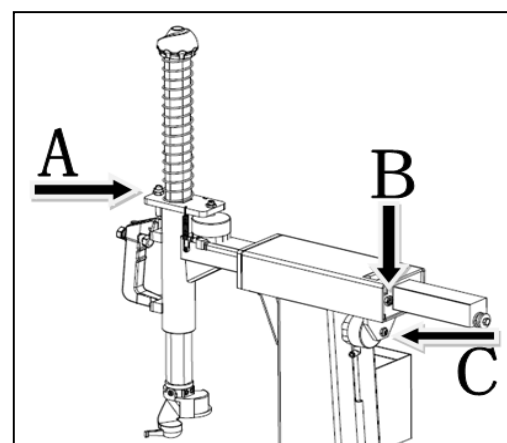

FIG21
- ✧ Switch off the pneumatic source and detach the protective cover on the hexangular shaft. If the clearance is too much, we can adjust the nuts (Fig21-A) on the vertical
- ✧ Switch off the air source and detach the protective cover at the upper end of the horizontal arm.Use 5# spanner to loosen the lock nut (Fig21-C)on the M6 screw at the two end.Adjust the M6 screw,meanwhile use your hand to push the quadric shaft until it runs smooth and thenlock the nut.Use the spanner to adjust the screwin the middle and meanwhile lock the horizontal arm and observe the displacement. When the displacement is 2mm,lock the nut.
- ✧ If the square locking plate cannot lock firmly, adjust the taper locking pole.(FIG21-D)